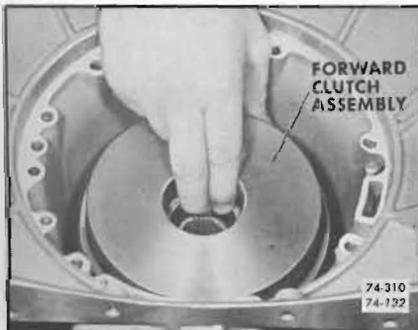

Figure 74-132
3. Remove forward clutch assembly by pulling straight out of case. Make certain low band has been released before attempting to remove forward clutch. See Figure 74-132.